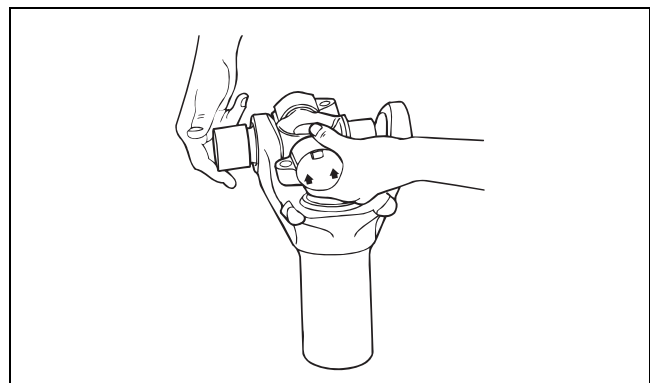

Figure 7
3. Retirer la bague arrondie. Figure 7.